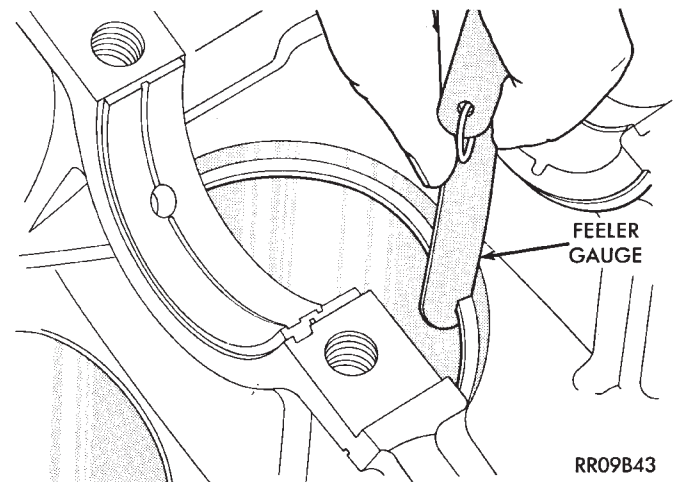

Fig. 7 Check Gap on Piston Rings
(1) Wipe cylinder bore clean. Insert ring and push down with piston to ensure it is square in bore. The ring gap measurement must be made with the ring positioning at least 12mm (.50 inch) from bottom of cylinder bore. Check gap with feeler gauge (Fig. 7).